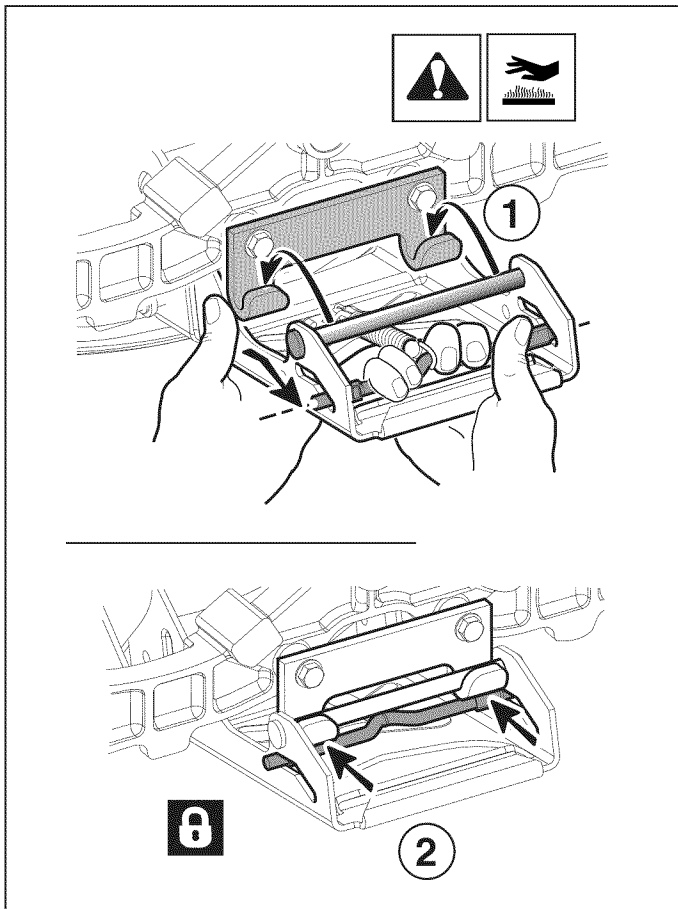

Figure 21
3. Turn the wheels straight ahead. Pull back on the spring-loaded lever while lifting up on the mower hitch and install on tractor hitch bracket (see 1-2, Figure 21).